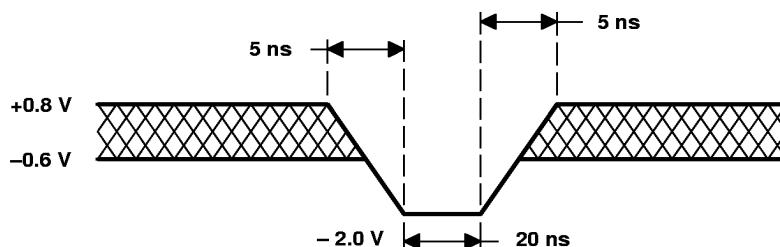

Figure 8. Maximum Negative Overshoot Waveform
5. The voltage on any input or output can undershoot to –2 V for periods less than 20 ns. See Figure 8.